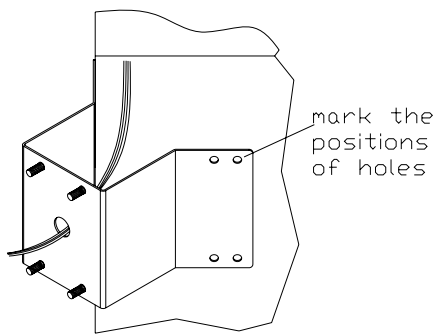

FIG.20
1. First mark the positions of holes placing the corner mount bracket. (FIG.20)